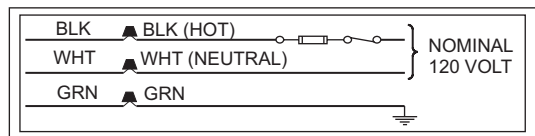

FIGURE 11: Polarity Wiring Connections
- The furnace's control system requires correct polarity of the power supply and a proper ground connection. Refer to Figure 11.